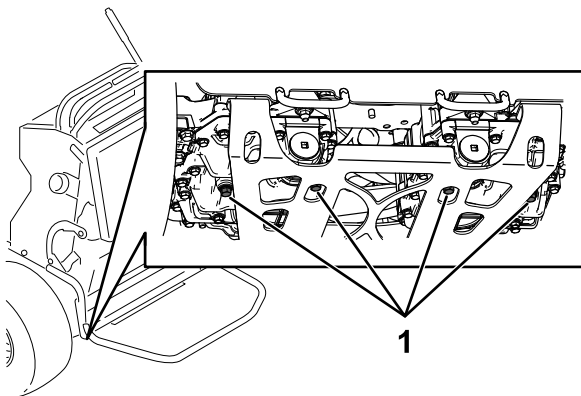

Figure 73
3. Locate the drain plugs in the bottom of the transmission and place a drain pan under the plug (Figure 73).